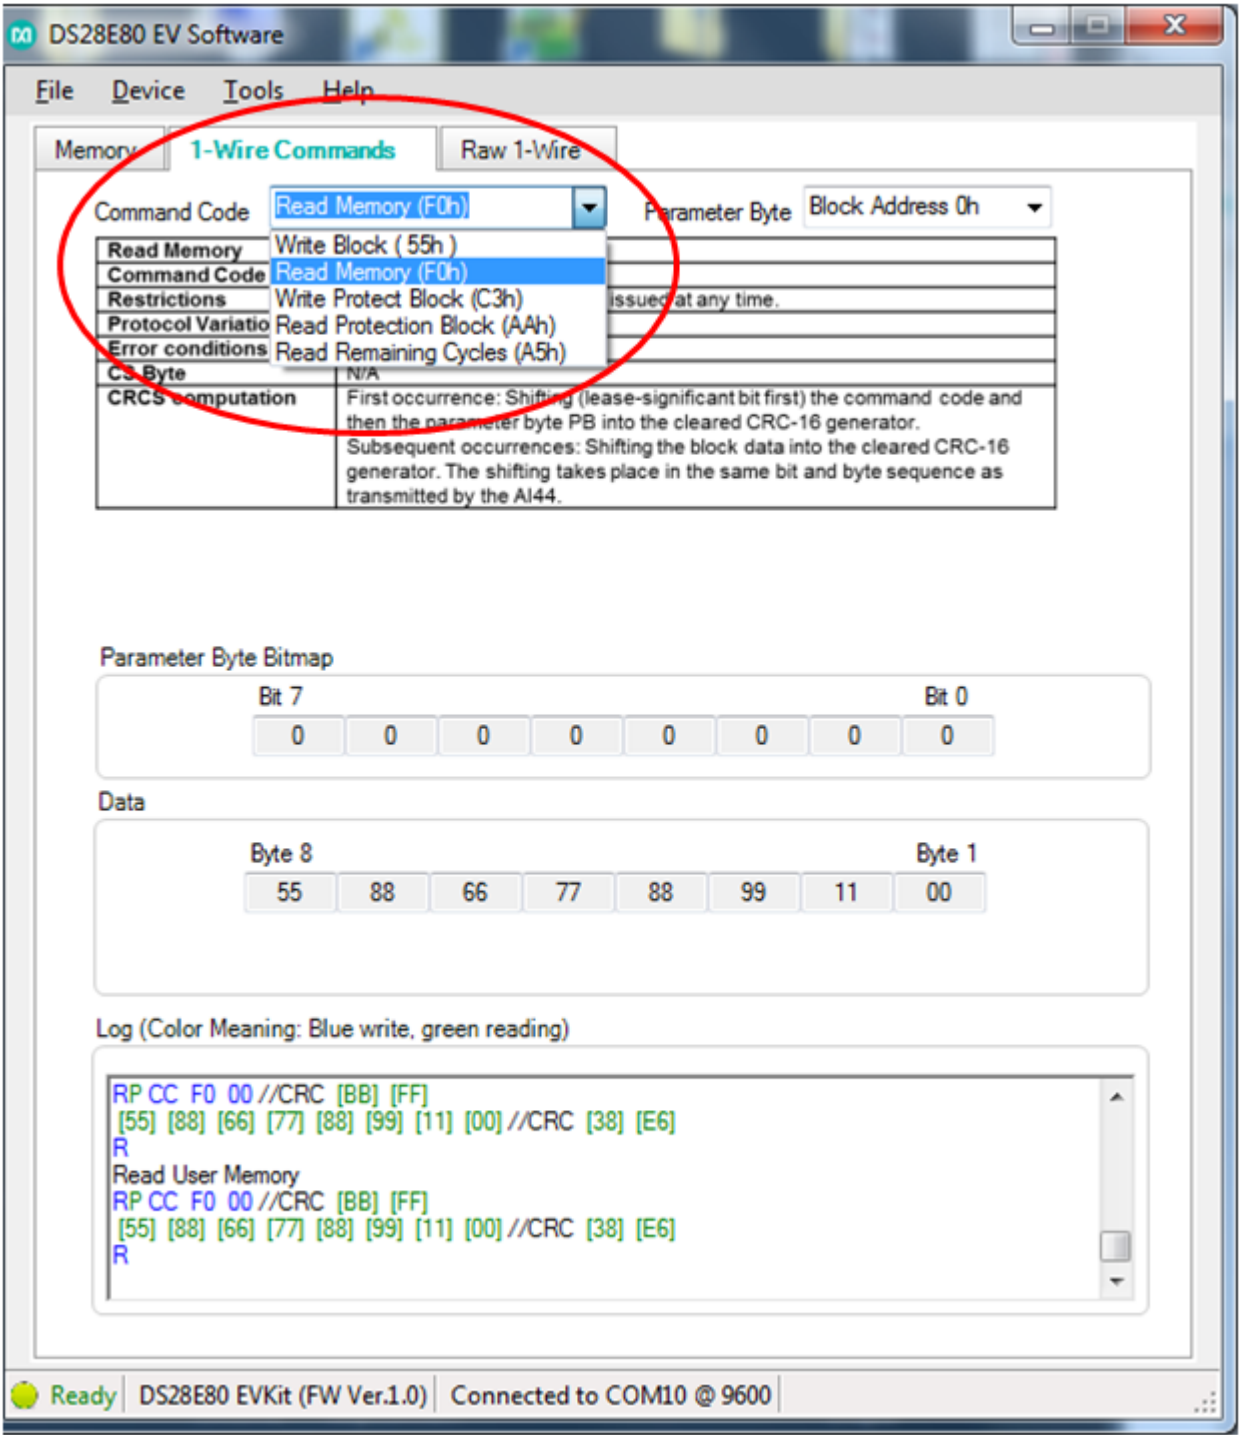
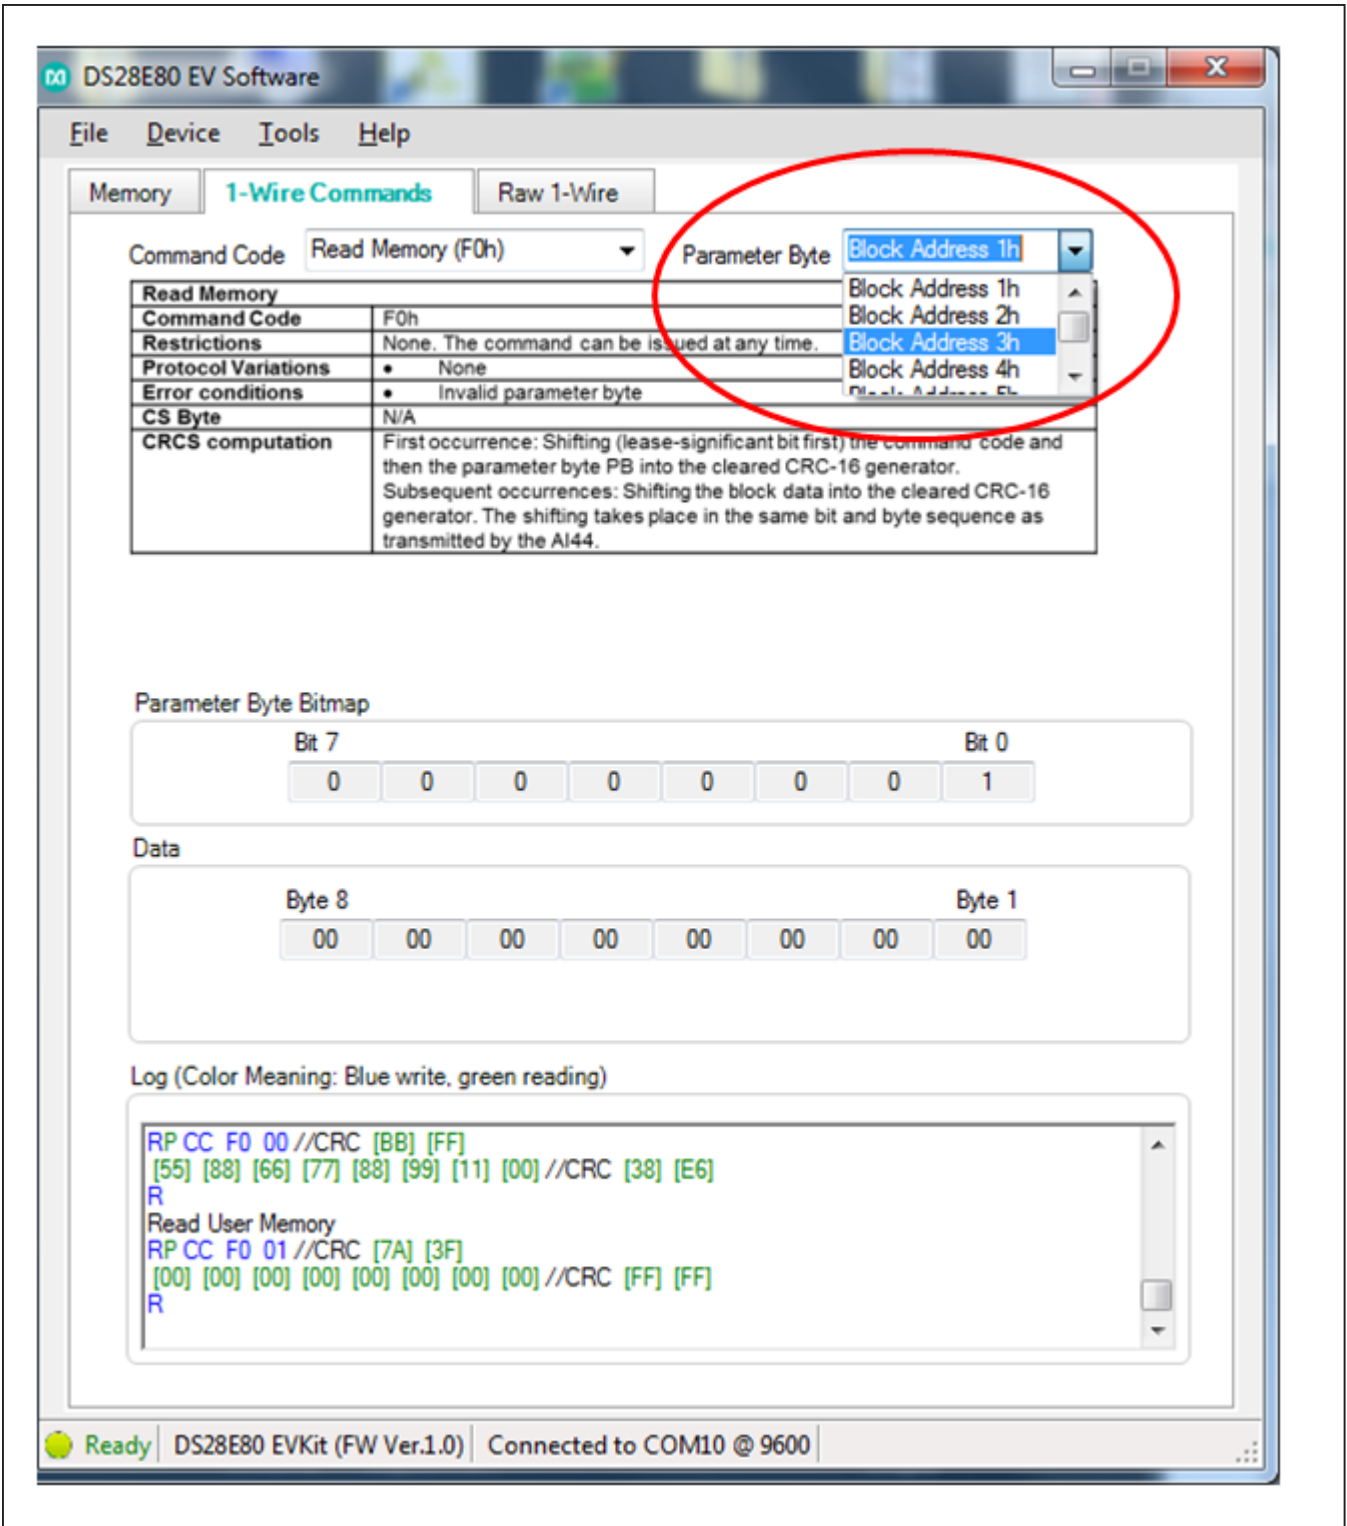

Figure 17. Read Memory Occurs When Command Code Selected
Figure 18. Read Memory Occurs When Parameter Byte Selected
**Note:** A read of the memory is performed each time the command from the **Command Code** drop-down list is selected, as shown in Figure 17, or each time the block address from the **Parameter Byte** drop-down list is selected, as shown in Figure 18.